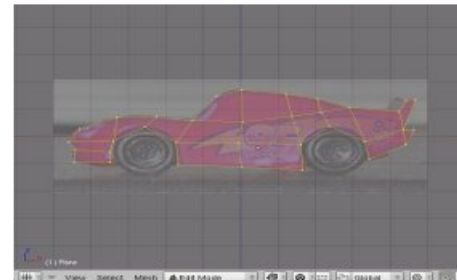

Fig 1: Lowpoly mesh.
**3.**We are trying to make as few faces as possible so only add as many vertices as needed. Select the remaining vertice and Control LMB to create an outline of the car. Then create faces to fill in your outline by selecting 4 vertices and hitting "F key". (Fig 1)